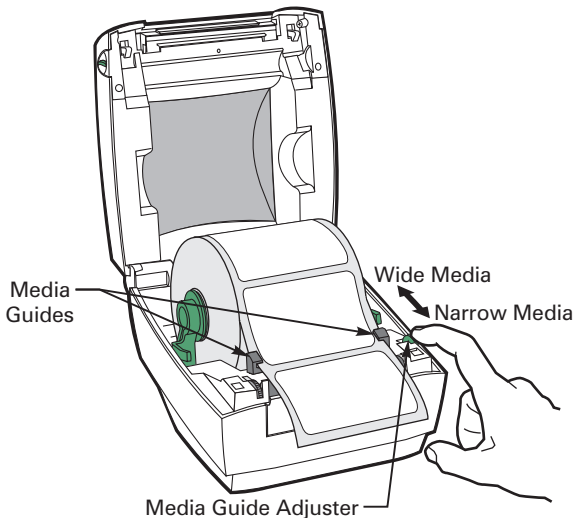

Figure 7
4. Refer to Figure 7. Thread the media through the media guides.
NOTE: If the media guides must be changed to accommodate the width of the media, turn the green media guide adjuster (refer to Figure 7). The media guides should just touch, but not restrict, the edges of the media.